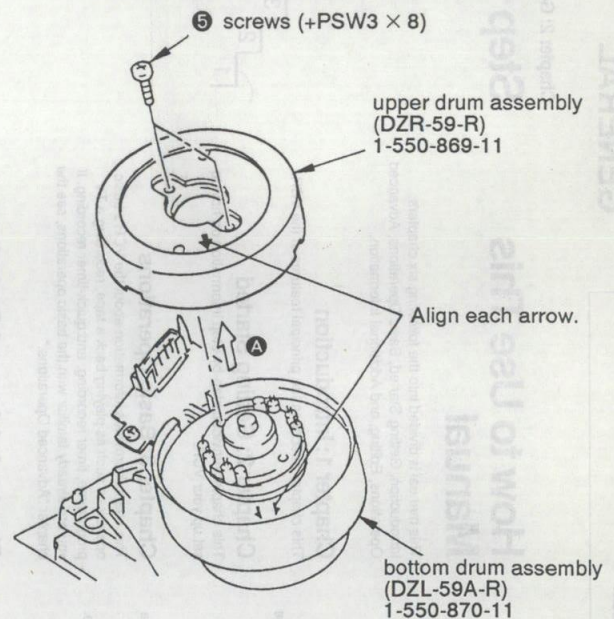

Fig. 5
- 4) Remove two screws ⑤ (PSW3 × 8) and take out the rotary upper drum in the arrow direction A. (See Fig. 5.)
- 2) Mount the rotary upper drum board by aligning marked ➡ with marked ➡ of rotary transformer board (lower drum) so that the screw holes of both upper and lower drums match. (See Fig. 5.)
- 4) Tighten two screws ⑤ (PSW3 × 8). (See Fig. 5.)